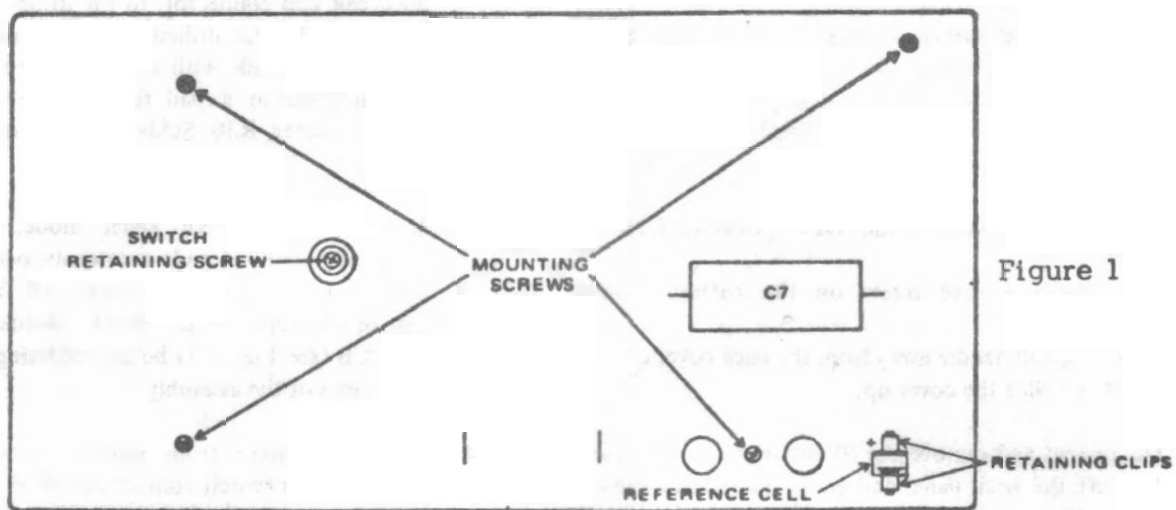

Figure 1
6. Remove the PCB mounting screws (4 # 1 phillips). See Figure 1.